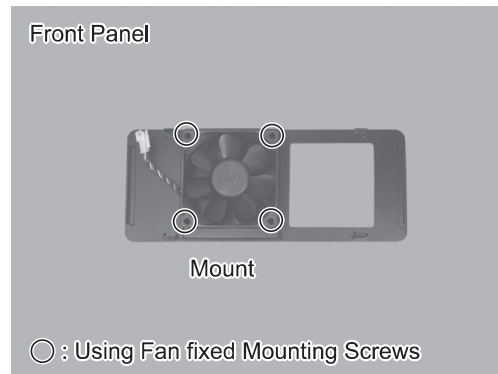

Fig. 46
- (10) Mount the Replacement FAN onto the Case (Front Panel) by using FAN Mounting Screws (4pcs.) (Specified Torque : $0.5\text{N}\cdot\text{m}\pm 0.1$) (Fig. 46).